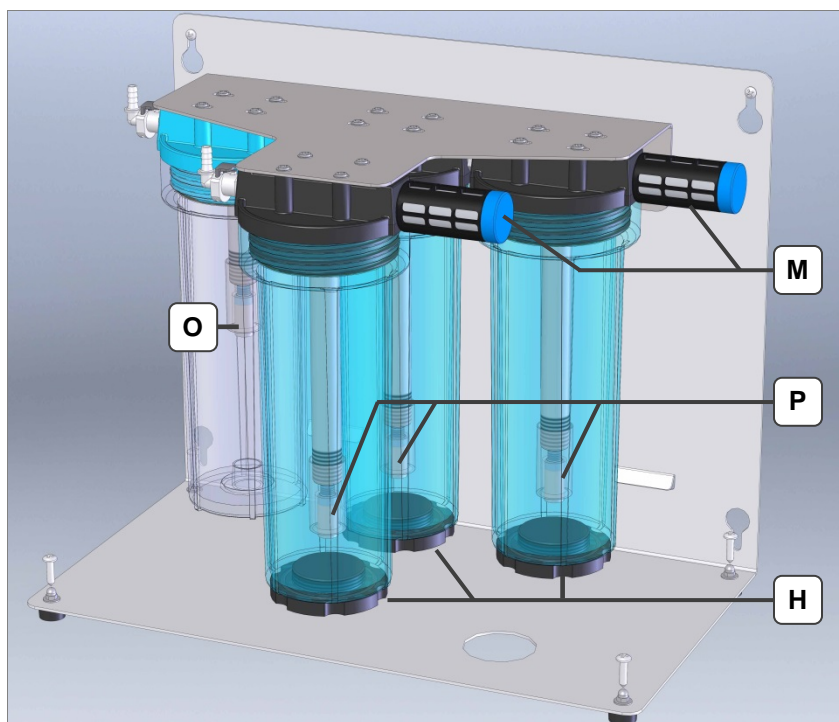

Fig. 14.3.3.1 Sectional view of activated carbon filter
- Changing outer PE filter** Unscrew the outer PE filter (*Fig. 14.3.3.1.M*) from the activated carbon cartridge.
- Unscrew the used PE filter (*Fig. 14.3.3.1.O*) from the mounting thread.
- Detach the retaining plate (C) from the base plate (J).
Unscrew the used PE filter (*Fig. 14.3.3.1.P*) from the mounting thread.
Open the screw plug (*Fig. 14.3.3.1.H*) of the activated carbon cartridge and fill the required quantity of new activated carbon granulate using the funnel.